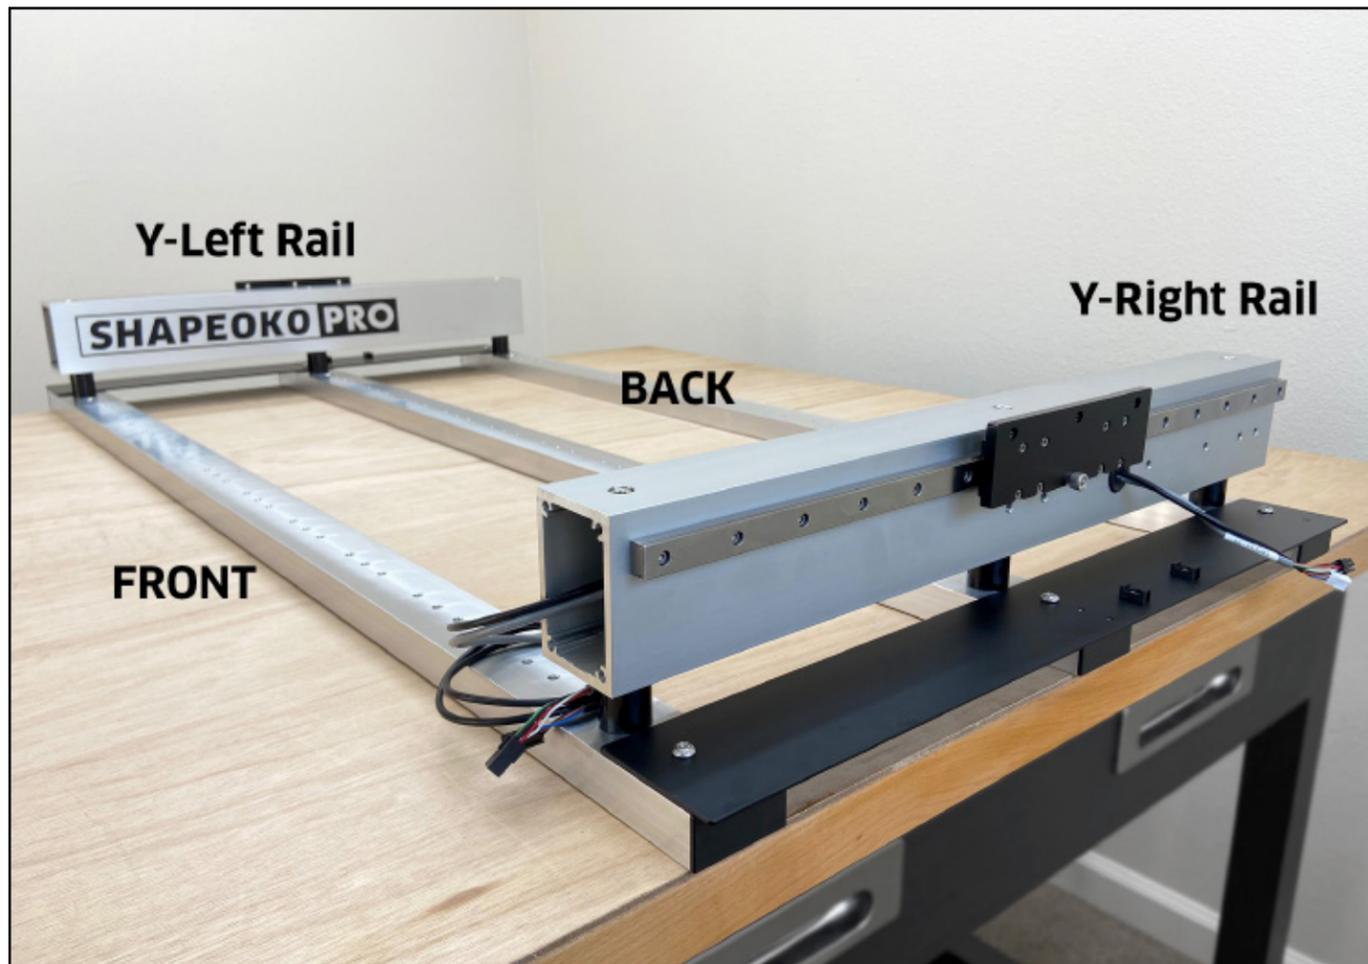
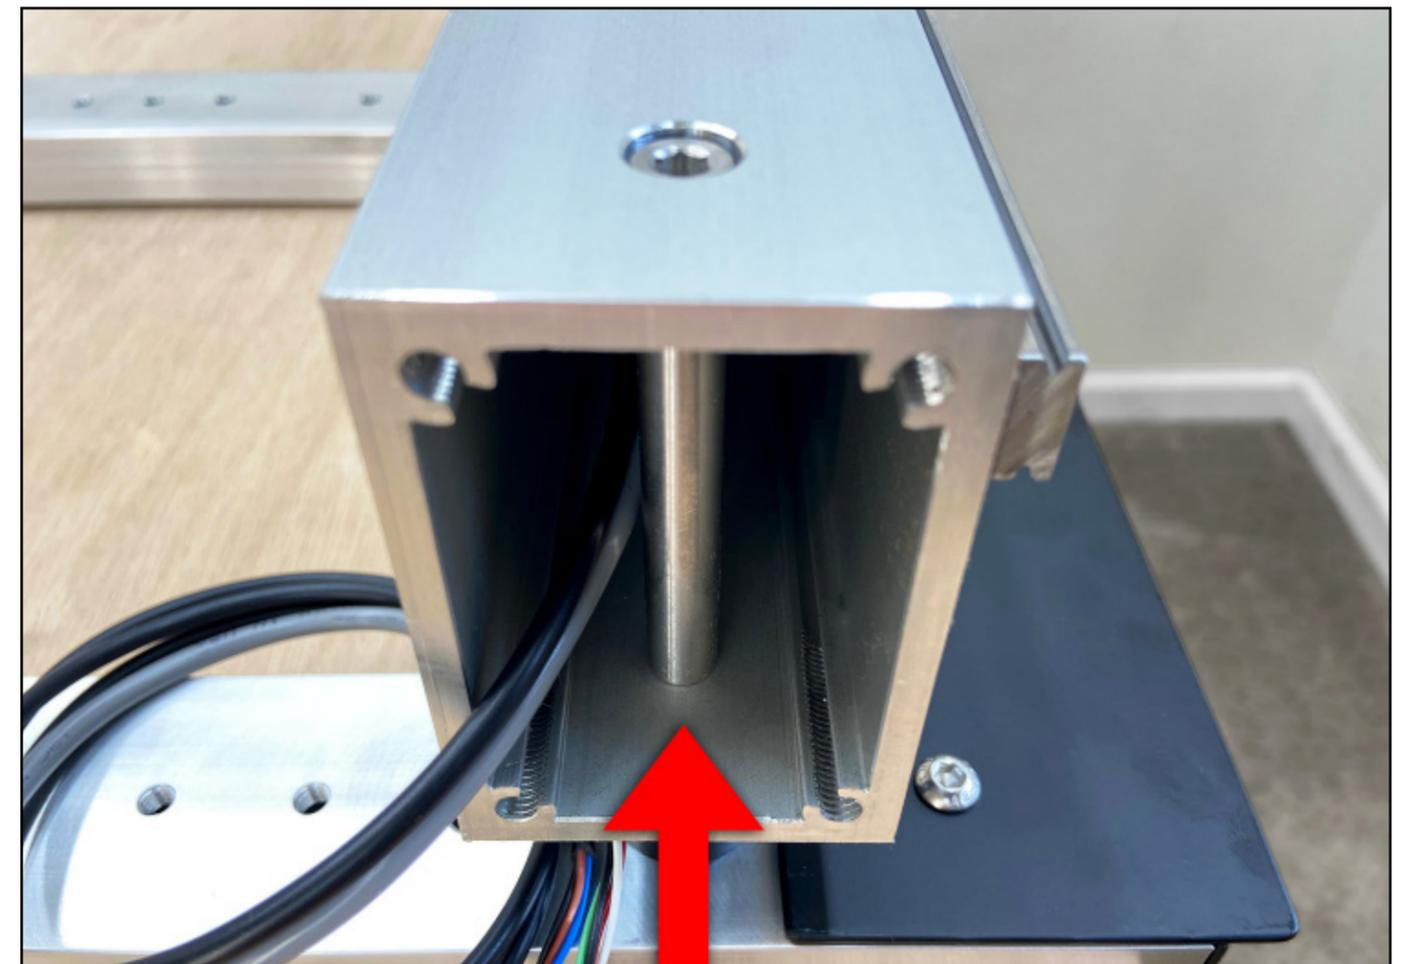

Figure 2-2
Figure 2-3
1. Position the Y-Left extrusion rail on the three standoffs on the left side of the baseframe. See **Fig. 2-2**.
2. Use a 5mm hex key and three (3) M6×85mm shoulder bolts to loosely attach the Y-Left rail to the standoffs. See **Fig. 2-2**.
- b. Ensure bolts fit snugly into the lower through-holes with the shoulder flush against the rail as shown in **Fig. 2-3**.
1. Position the Y-Right extrusion rail on the three standoffs on the right side of the baseframe. See **Fig. 2-2**.
3. Use a 5mm hex key and three (3) M6×85mm shoulder bolts to loosely attach the Y-Right rail to the standoffs.